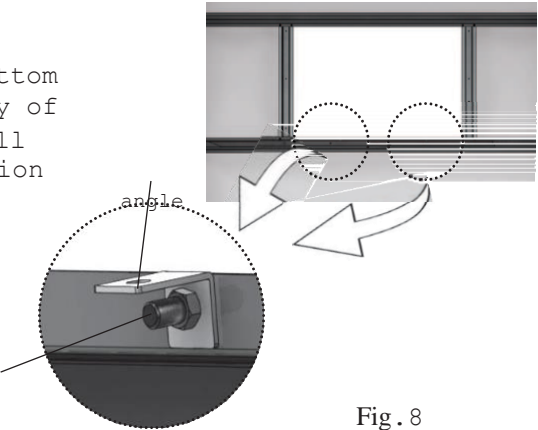

Fig. 8
9. Mount two angles on bottom balk 2 on the periphery of opening for fixing small window in opened position (Fig. 8).